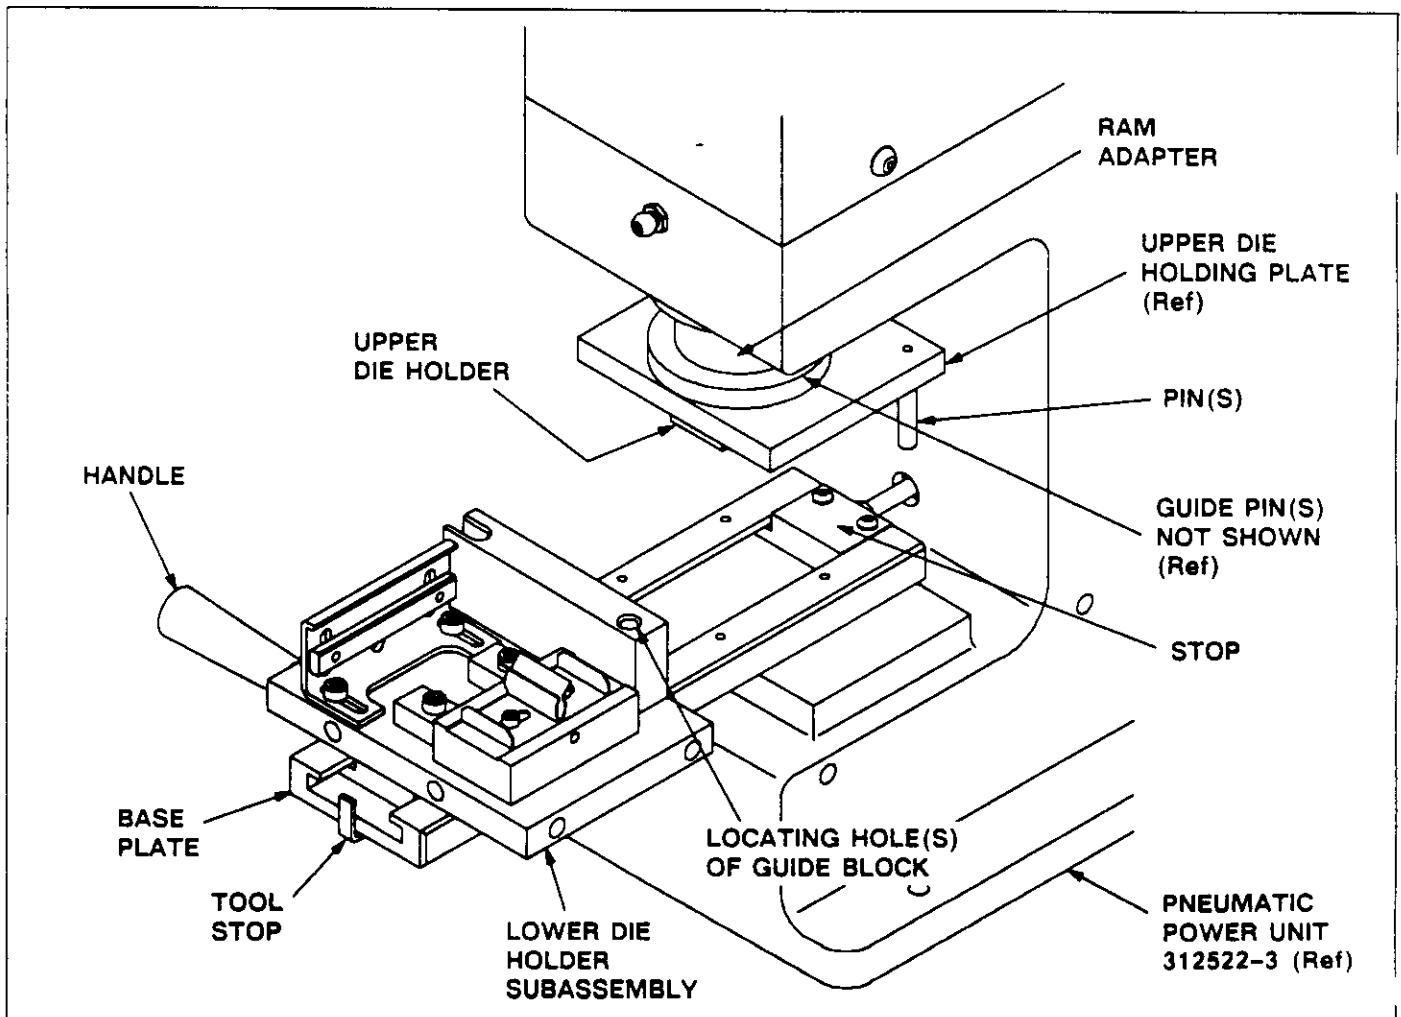

Fig. 2
3. INSTALLATION OF DIE HOLDER ASSEMBLIES (Figure 2)